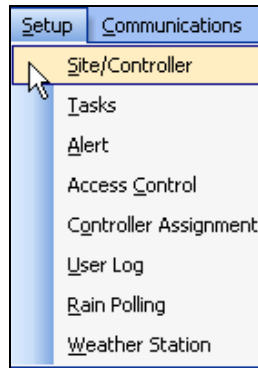

Figure 4.0.1
1. In the toolbar at the top of the screen select **Setup**. Scroll down the list to **Site/Controller** setup and click on it (Figure 4.0.1).